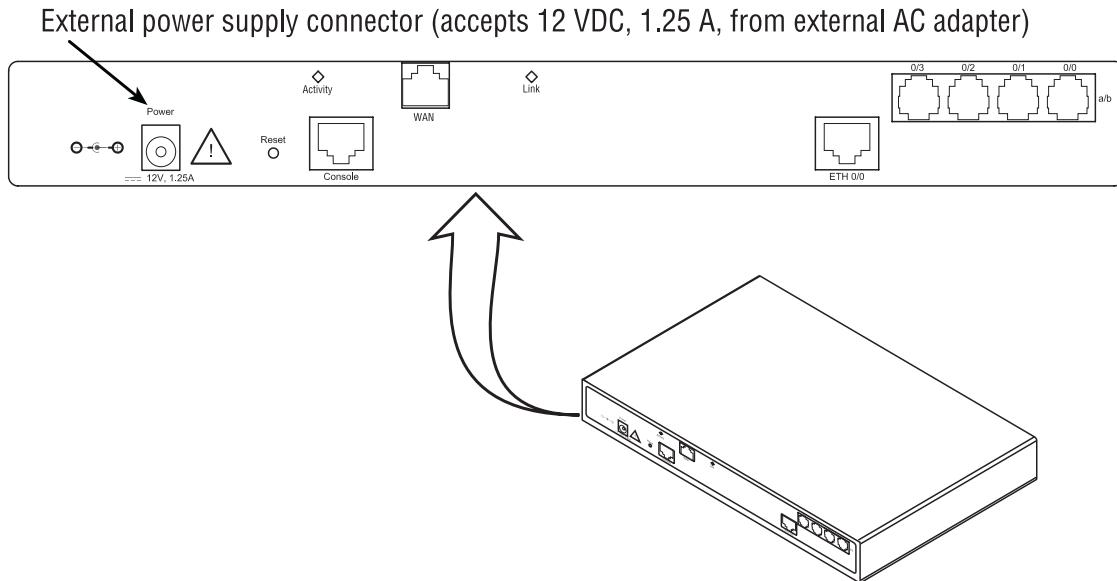

Figure 3. SmartNode 4834 power input connectors
- *EUI* stands for external universal input power supply (see figure 3)
| Power | Rear panel | The gateway is available in a DC or AC power input version (see Figure 3), labeled as follows: <ul style="list-style-type: none"> • AC version (Internal power supply): 100–240 VAC, 50/60 Hz, 200 mA • DC version: 12 VDC, 1.25 A |